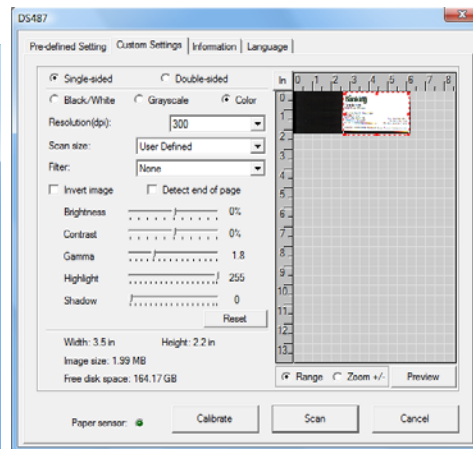

Figure 2
- 2) The second way is through the TWAIN user interface, which you can find by pressing the Custom button on the AmbirScan 2.0 control panel. The TWAIN user interface (Figure 2) allows you to control all details and settings of the scanner. This type of “fine-tuning” of your scans may be required for some of your document needs.